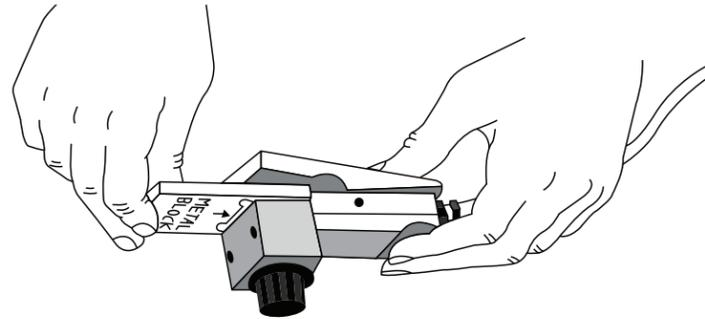

Figure 51 Sensor head on calibration plate
- Slide the calibration plate into the sensor head, orienting the side of the plate marked Metal Block toward the aluminum block side of the sensor head (Figure 51). A seating click will occur when the plate is placed correctly. The lip on the calibration plate should be fully fitted into the top of measurement hole.